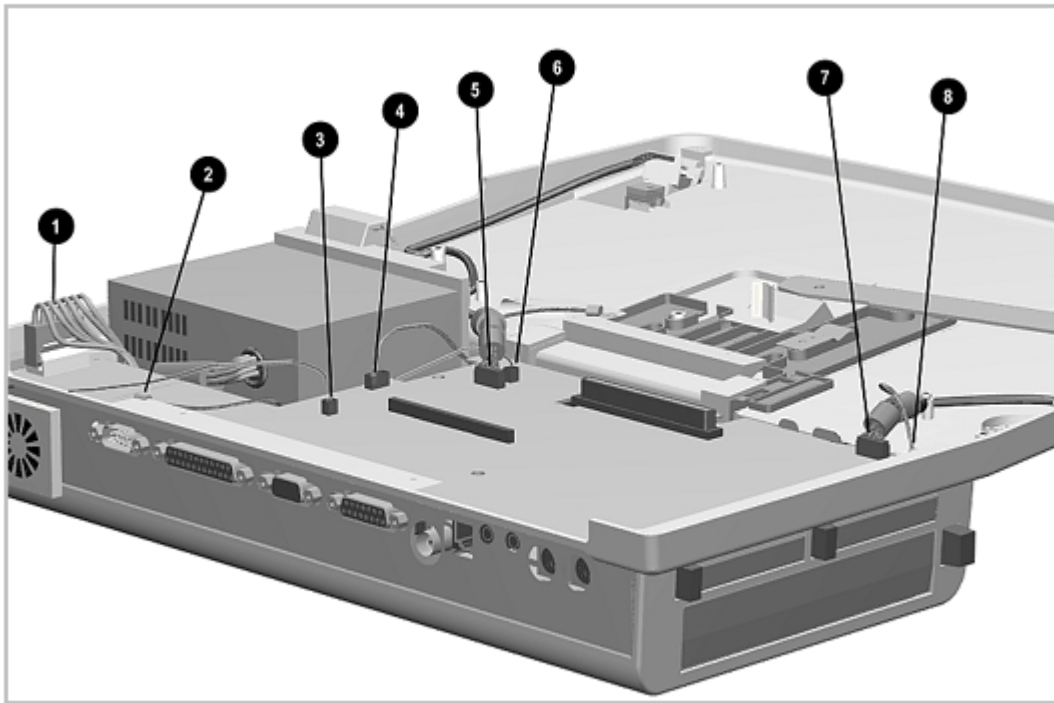

Figure 7-18. Disconnecting and Removing the Main Board Cables
4. Note the routing of all cables and disconnect the power supply cable [1], the auxiliary fan cables [2], [3], the power supply fan cable [4], the IrDA cable [5], the speaker cables [6], [8], and the power cable [7] (Figure 7-18).